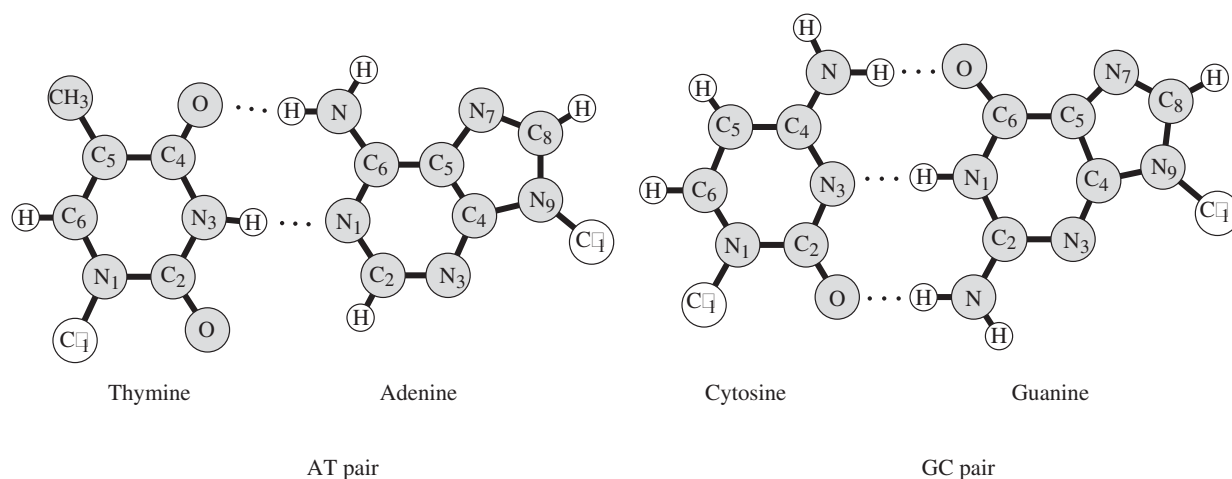

Figure 44.1
In the DNA double helix, two polynucleotide chains run in opposite directions. This means that at each end of the double helix, there is one 5'-OH and one 3'-OH terminal. The sugar phosphate backbone is on the outside, and the bases point inward. These bases are paired so that for each adenine (A) on one chain a thymine (T) is aligned opposite it on the other chain. Each cytosine (C) on one chain has a guanine (G) aligned with it on the other chain. The AT and GC base pairs form hydrogen bonds with each other. The AT pair has two hydrogen bonds; the GC pair has three hydrogen bonds (Figure 44.1).